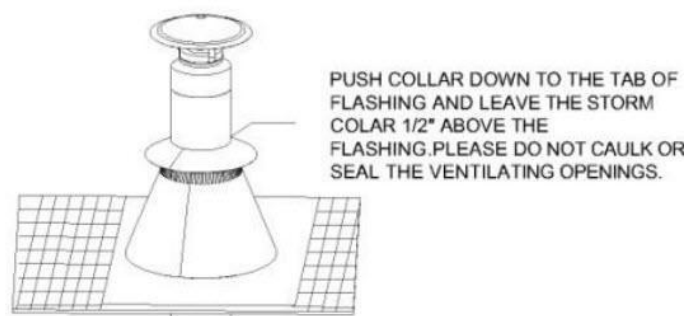

Fig 11
9. **Attach Roof Flashing:** In new construction, assemble the Chimney Sections to a point above the roof, then slip the Roof Flashing over the chimney. On an existing roof, center and install the Roof Flashing before extending the chimney above the roof. Allow space to permit sliding the next Chimney Section up through the Roof Flashing. Always ensure the chimney remains vertical (use a level), and that at least a 2 inch clearance to combustible materials is maintained all around. Install the upper edge of the Roof Flashing under the roofing material (shingles). Nail to the roof along the upper edge and down each side with 1 inch roof nails. Do not nail the lower edge of the Flashing. Be sure to follow local building practices as needed. Seal all nail heads with a non-hardening waterproof sealant. On flat or tarred and gravel roofs, nail and seal the Flat Roof Flashing to the roof on all sides of the roofing compound. Do not put screws through the Roof Flashing into the Chimney Pipe. When installing a ventilated roof flashing leave the storm collar 1/2 inch above the opening of the flashing. Do not caulk or seal the openings, "vents", on the flashing. See Fig 11.